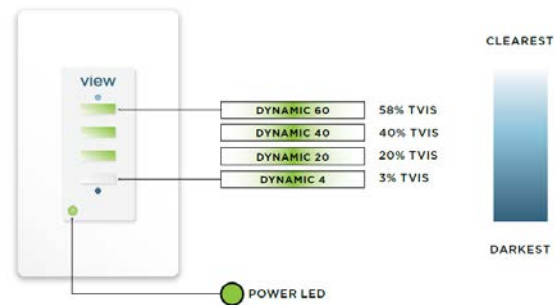

Figure 2 – Wall Switch Diagram
- The wall switch will change the tint state of the View Dynamic Glass (figure 2). The four vertical buttons correspond to the four tint states, ranging from darkest (Dynamic 4) to clearest (Dynamic 60).